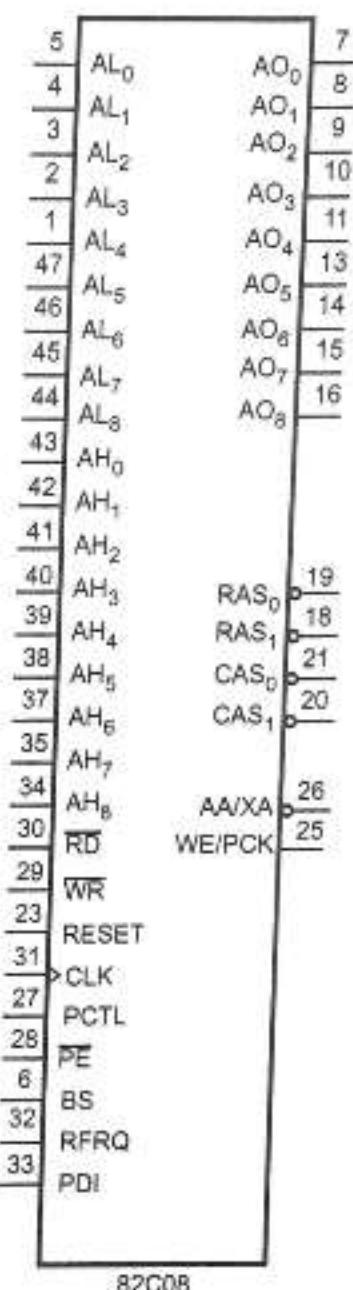

Fig. 3.3.3 Pin diagram of 82C08 DRAM controller
- Fig. 3.3.3 shows pin diagram of DRAM controller. $AL_0 - AL_8$ and $AH_0 - AH_8$ are the address inputs for DRAM controller and $AO_0 - AO_8$ are the address outputs from the DRAM controller.